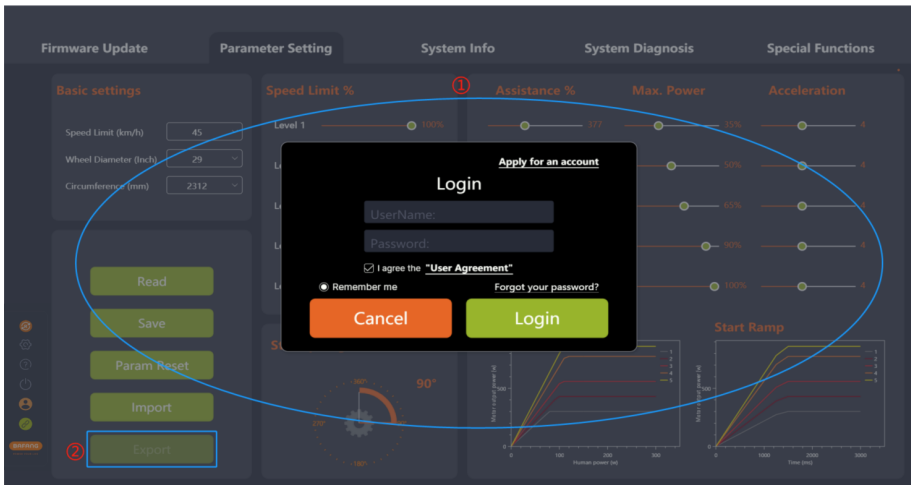

Fig 5-19 Export
2. Click “Export”. If you are not logged in, the “Login” interface will pop up, prompting you to log in (Figure 5-19).